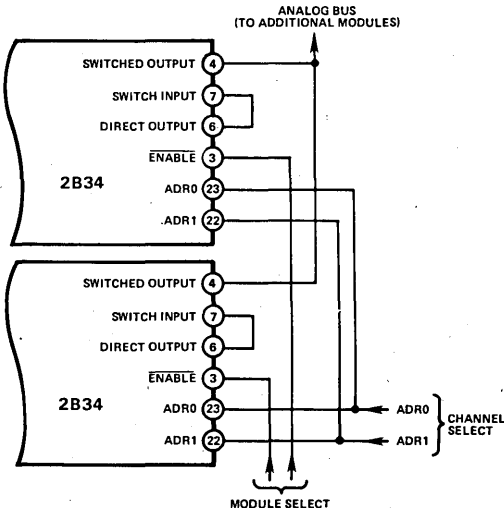

Figure 4. Channel Expansion
**Channel Expansion:** The 2B34 has provisions for directly interconnecting several modules when more than four channels are required. The series switched outputs of the modules are connected together, the channel select inputs are driven in parallel, and the switched output of the desired module is selected using the ENABLE pin. This technique is shown in Figure 4. Channel address and ENABLE (active low) inputs are CMOS/TTL compatible with an input current of  $100\mu\text{A}$  each.